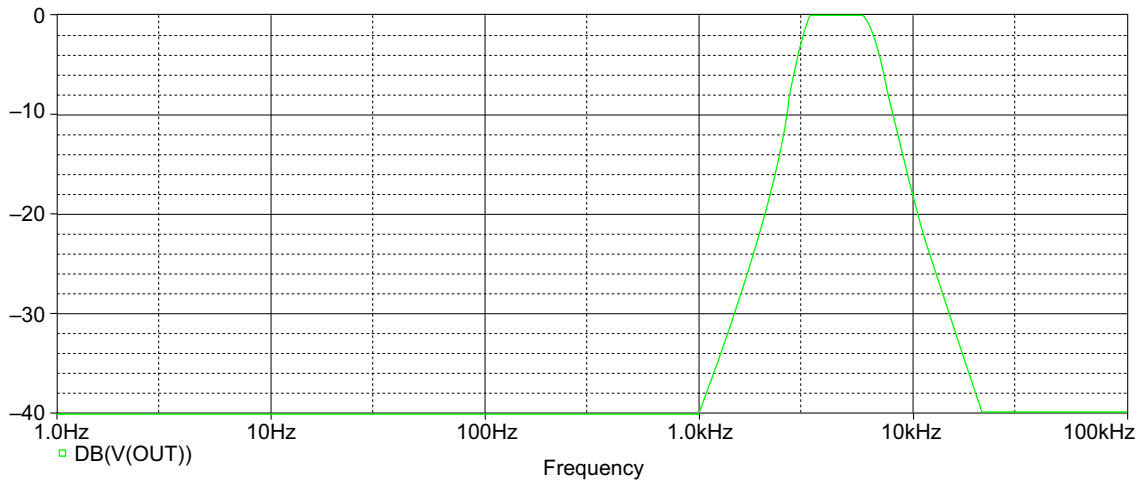

FIGURE 13.11
4. Run the simulation. You should see the bandpass response as shown in Figure 13.11.